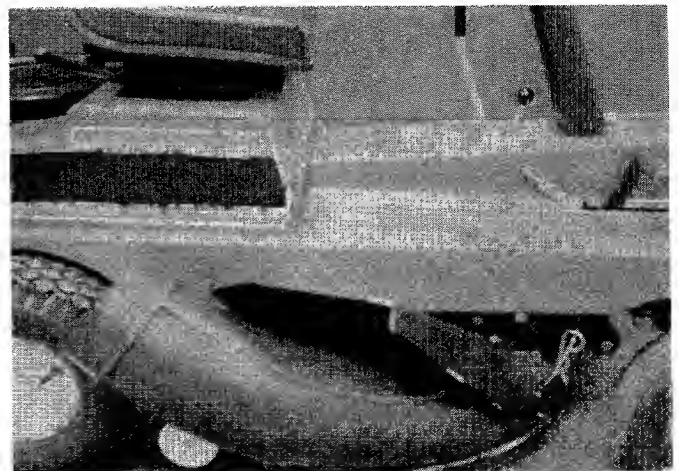

FIGURE 7
3. Slide discharge chute into position with the two parts of the bracket chute lock aligned. Secure with hair pin cotter attached to discharge chute. See figures 7 and 8.